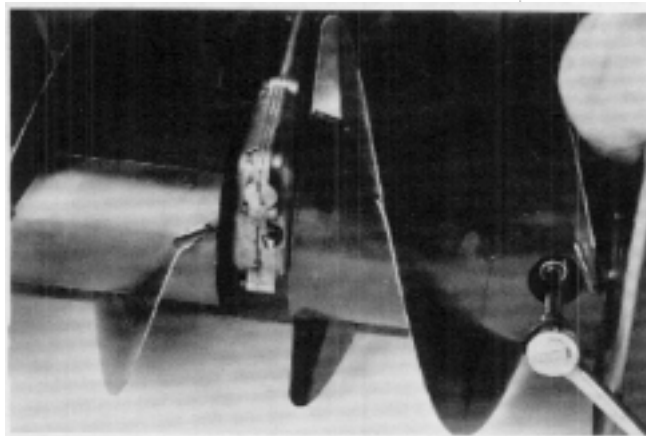

Figure 88
1. Remove the auger through bolt as shown in Figure 88. This will allow free wheel movement of the auger to facilitate removal of some of the nuts and bolts.